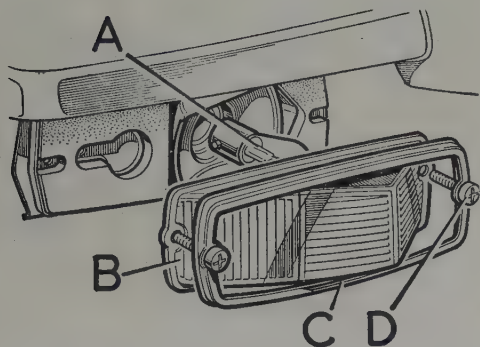

Fig. 10.26. Front flasher (early 3500S)
- 1 Refer to Fig.10.26 and remove the two retaining screws "D" which retain the chrome bezel "C".